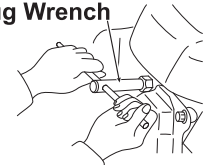
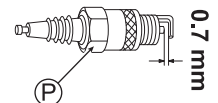

Fig. 40
Fig. 41
- Remove Ignition plug (P) with the attached plug wrench. (See Fig. 40)
- Exchange Ignition plug (P) if a great amount of carbon is adhered to it or its insulator is cracked or damaged.
- Remove the carbon adhered to the electrode, and adjust the electrode clearance to 0.7 mm. (See Fig. 41)
- Install Ignition plug (P) and Plug cap (Q).